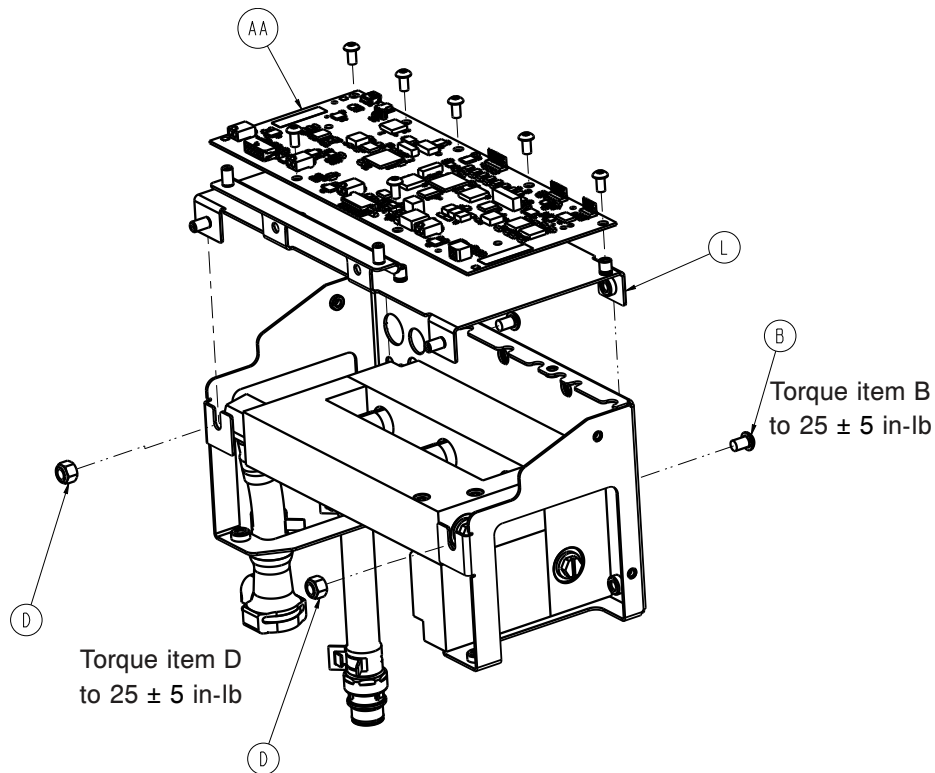

Figure 43 – MCB bracket
15. Using a T27 torx, remove and save the two screws (B) (Figure 43) that secure the MCB bracket to control assembly bracket.